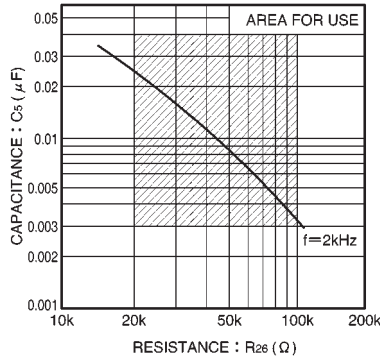

Fig. 7 Value of external components for oscillator (V_{CC} = 5.0V)
(3) The external resistor R_{26} connected to the oscillator (pin 28) should be in the range of 20k Ω and 100k Ω . If it is outside this range, oscillation may stop due to the influence of temperature (see Fig. 7).